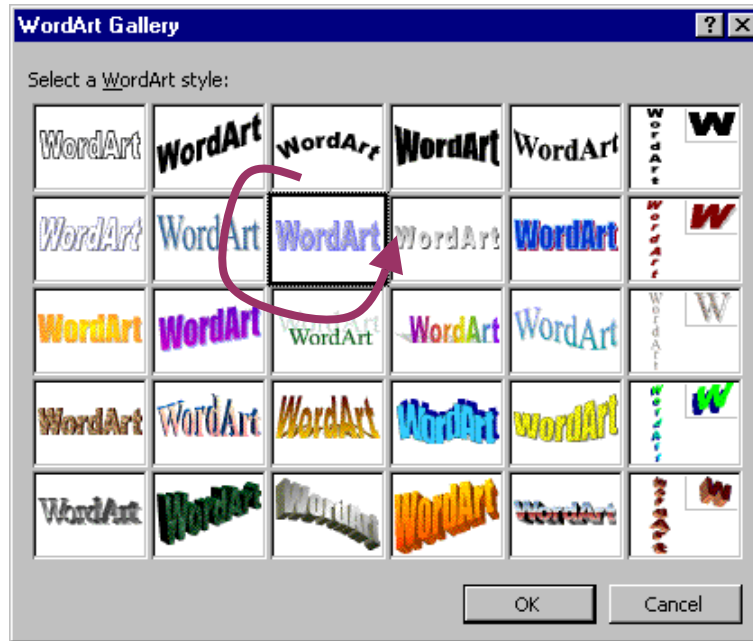
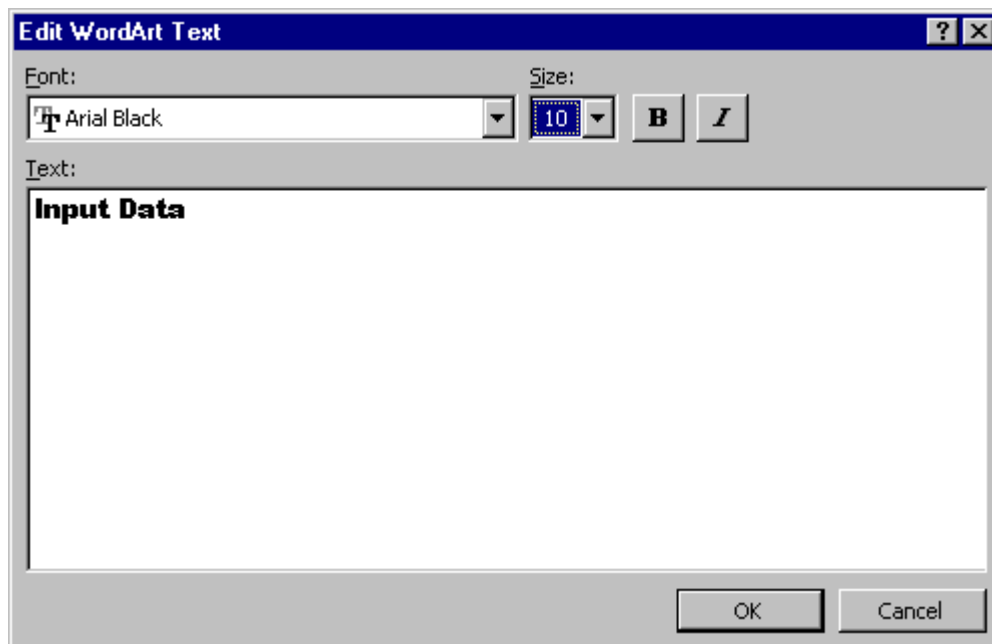
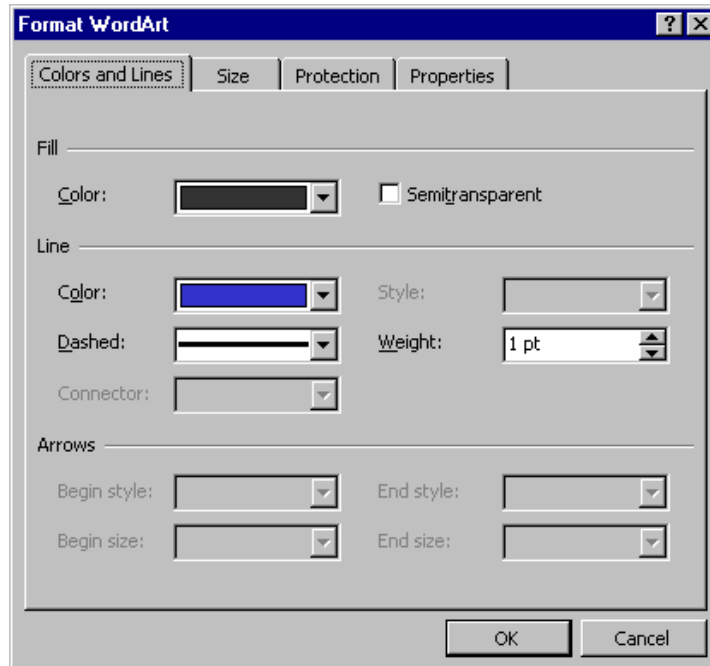

FIGURE 2:
FIGURE 3:
FIGURE 4:
3. On the toolbar select VIEW/TOOLBARS/WORDART. Click on the colored letter A at the end of the toolbar to get the menu of Figure 2. Choose the entry in row 2 column 3. In the EDIT WORDART TEXT menu of Figure 3, insert "Input Data" and choose the font as shown in Figure 3. Right click on the pasted Word Art insert and select FORMAT WORDART. Make the selections in Figure 4. Drag the WordArt to Cell E3. The result is shown in Figure 5.